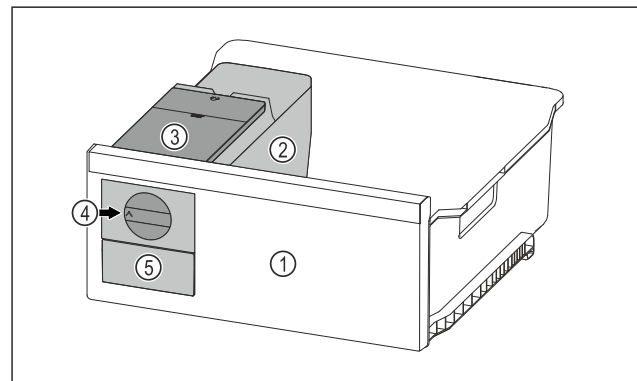

Fig. 151 Example illustration
- ▶ Turn the rotary knob Fig. 151 (4) clockwise as far as it will go.
- ▶ Ice cubes fall from the ice cube tray into the ice cube drawer Fig. 151 (5).